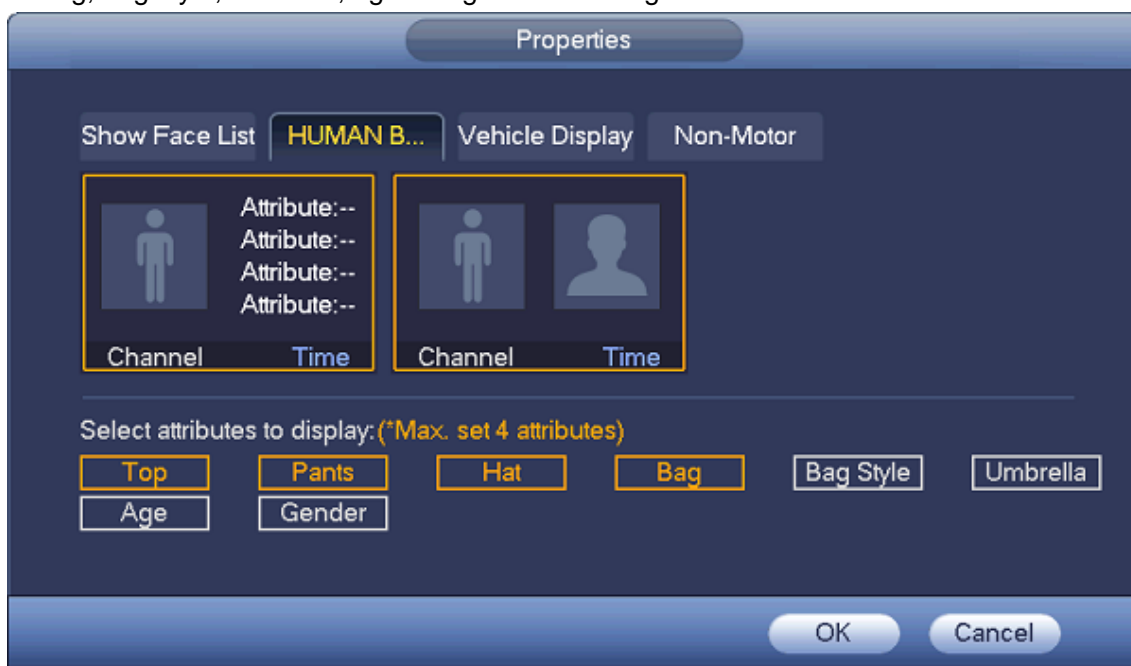

Figure 4-60
- Put the middle button at the center of the zone you want to zoom in, and move the mouse, you can view an interface shown as in Figure 4-60.